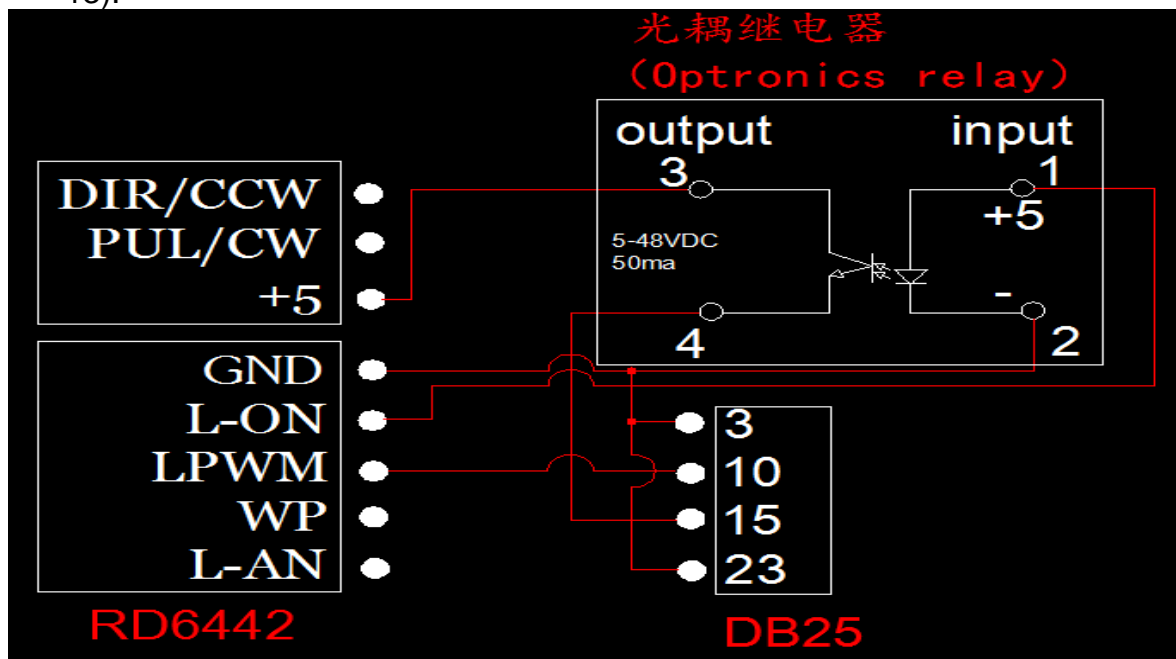

Figure 13
- b. 25P type Dingxin power supply is connected to the Ruida laser control board (only high-level active can be used). Need to install optocoupler relay such as (Figure 13).